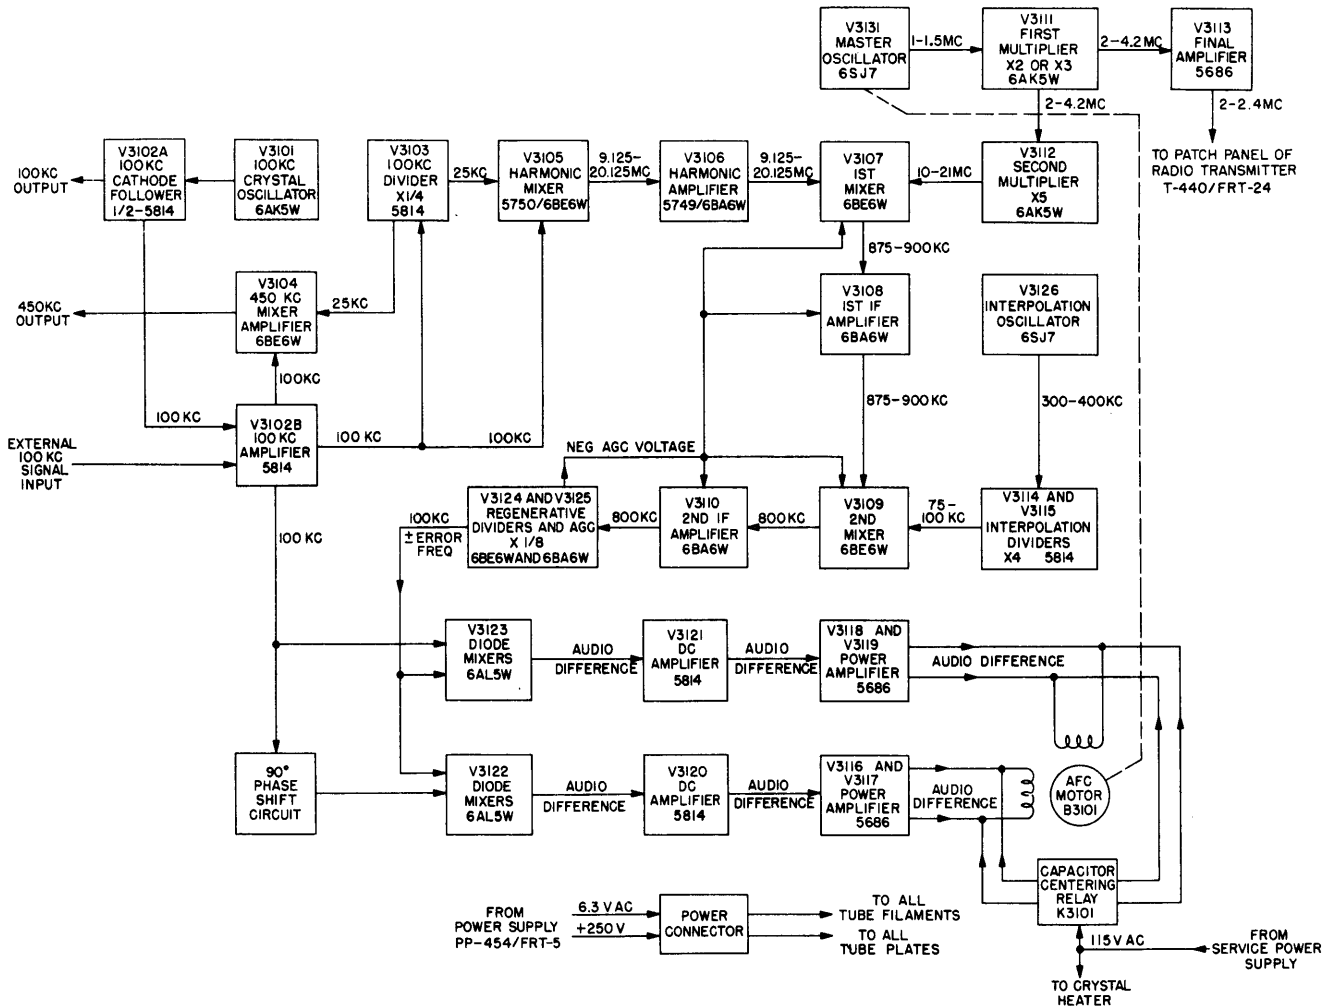

Figure 2-4. R-F Oscillator O-243/FRT-24, Block Diagram
e. R-F OSCILLATOR O-243/FRT-24.—A simplified block diagram of R-F Oscillator O-243/FRT-24 is shown in figure 2-4. The R-F Oscillator is a very stable automatic-frequency-controlled oscillator which covers a frequency range of 2 to 4.2 mc. It employs a master oscillator and amplifiers in conjunction with automatic-frequency-control circuits and a servo motor which maintain the output frequency from the master oscillator constant at any selected value within its range. The circuits that provide power to drive the transmitter are master oscillator V3131, first multiplier V3111, and final amplifier V3113. (These circuits are marked with an orange arrow on the chassis.) The remainder of the circuits, with the exception of the 450-kc mixer-amplifier (V3104), comprise the frequency-control circuits. The 450-kc mixer-amplifier (V3104) and the 100-kc amplifier (V3102B) are both provided with external jacks, so that the output of either may be fed to any external equipment requiring a frequency source of this type.